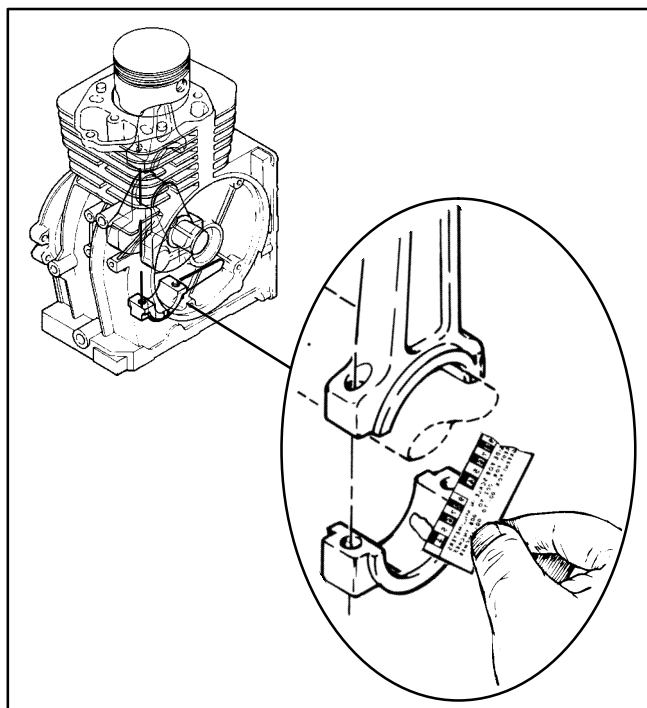

FIGURE 10-36. USING PLASTI-GAGE TO MEASURE CRANKPIN CLEARANCE
2. Place a piece of the correct size Plasti-gage across the full width of the rod cap about 1/4 inch (6 mm) off center (Figure 10-36).